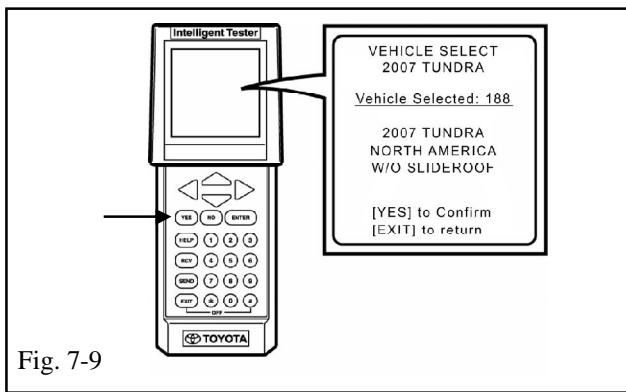

Fig. 7-9
- (k) Verify the Information, and press "YES." (Fig. 7-9)